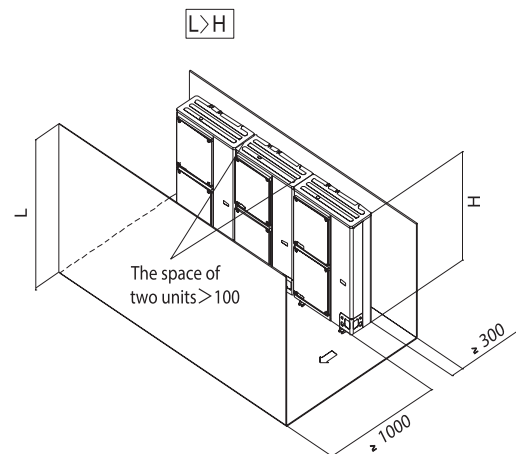

Figure 12
b. Group units installation (more than two units)(see Figure 12)